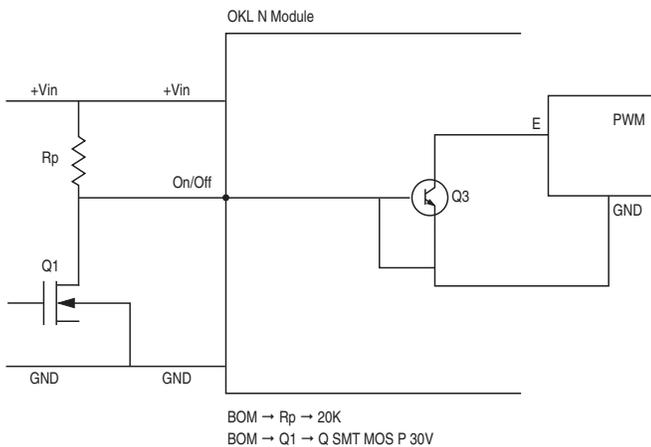

Figure 7. On/Off Circuit Control for Using Negative On/Off Logic
**Negative**—Units are enabled when the ON/Off is open or brought to within a low voltage (see specifications) with respect to -Vin. The unit is off when the ON/Off is pulled high with respect to -Vin (see specifications). The On/Off circuitry is shown in figure 7. The On/Off pin should be pulled high with an external pull-up resistor (20K ohms). When Q1 is in the off state, the On/Off pin is pulled high, transistor Q3 is turn on and the unit is off. To turn on the unit, Q1 is turn on, pulling the On/Off pin low and turning Q3 off resulting on the unit being on.